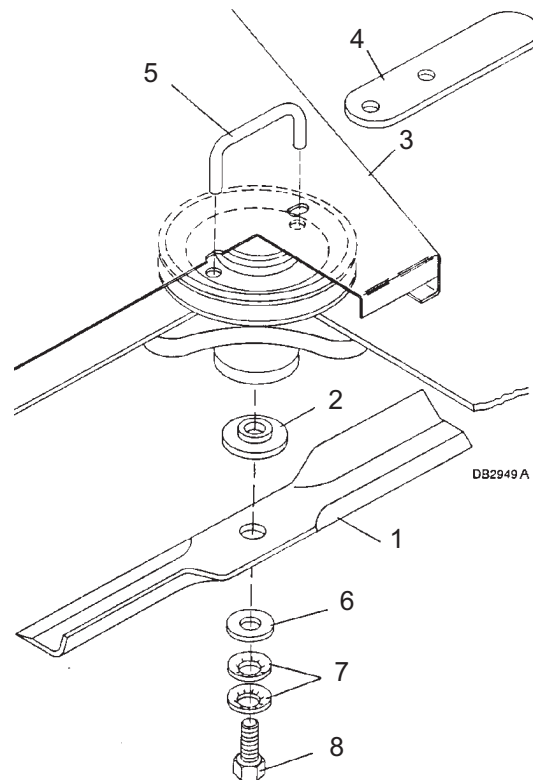

Figure 7 Blade Assembly
1. For right and left spindles, install spindle lock wrench (5) through belt shield (3) and into holes in spindle pulley as shown in Figure 7. Remove bolt (8) that has RIGHT HAND THREADS. Remove cup washers (7), washer (6), and blade (1).
2. On the center spindle use blade wrench handle (4). The handle will rotate against gearbox stand when blade bolt is removed.
3. Shoulder washer (2) will not normally come off unless intentionally removed.
Refer to Figure 7.
1. Install spindle lock wrench (5) through belt shield (3) and into holes in spindle pulley as shown Figure 7.
2. Install shoulder washer (2) if removed, small end up. Make sure blade cutting edge is positioned to lead in a clockwise rotation, as viewed from top of mower.
3. Install two cup washers (7) on bolt (8). Install washer (6) and blade (1) on bolt. Remember that bolt (8) has right hand threads; install bolt and blade assembly into spindle.